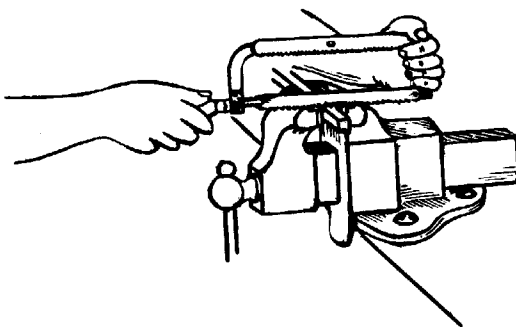

FIG. 1 SAWING WITH A HAND HACK SAW
6. Grasp the handle of the frame securely with the right hand. The thumb should be on top with the remaining fingers closed around the handle. The front end of the frame is held by the left hand to help guide the saw and give added pressure when sawing. (Figure 1)